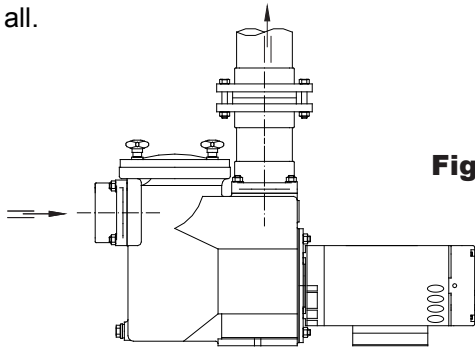

Figure 1
1. When connecting pipework to pump it is recommended that a flanged connection be used in the discharge line directly above the pump (see figure 1). If the suction pipe is not sealed correctly, the pump will not prime properly and will pump small volumes of water or none at all.